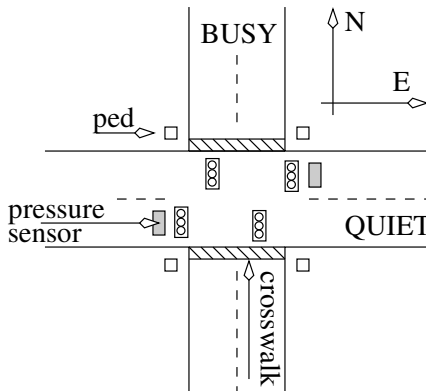

Figure 7.11: The layout of a four way intersection.
14. **(36 pts.)** Construct a digital circuit to control the movement of traffic at the four way intersection shown in Figure 7.11.